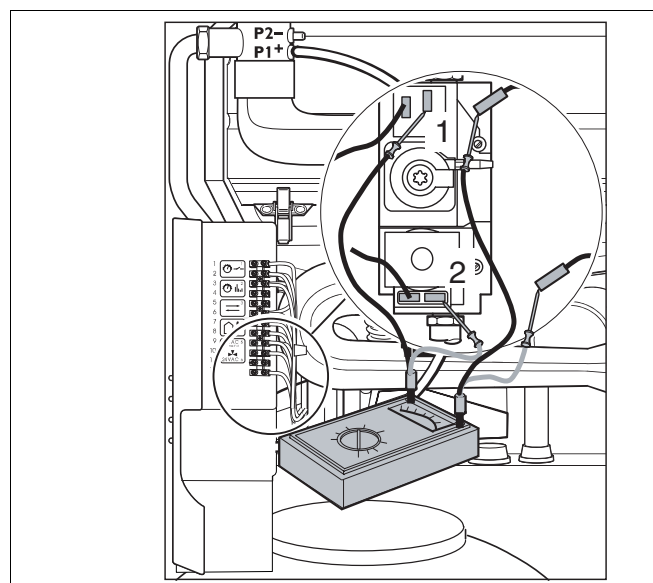

fig. 79 Checking the gas valve assembly activation system (HONEYWELL valve assembly shown as example)
- Remove a plug-in cable at the main gas valve and connect a current-measuring device, at the same point, with a measuring range of up to 1000 mA AC (fig. 79, item 1).
- Carry out the same measuring procedure at the ignition-gas valve (fig. 79, item 2).
- If the current reading at pos. 1 is approximately 210 mA and the reading at pos. 2 is about 450 mA, the gas-valve activation system is in order.